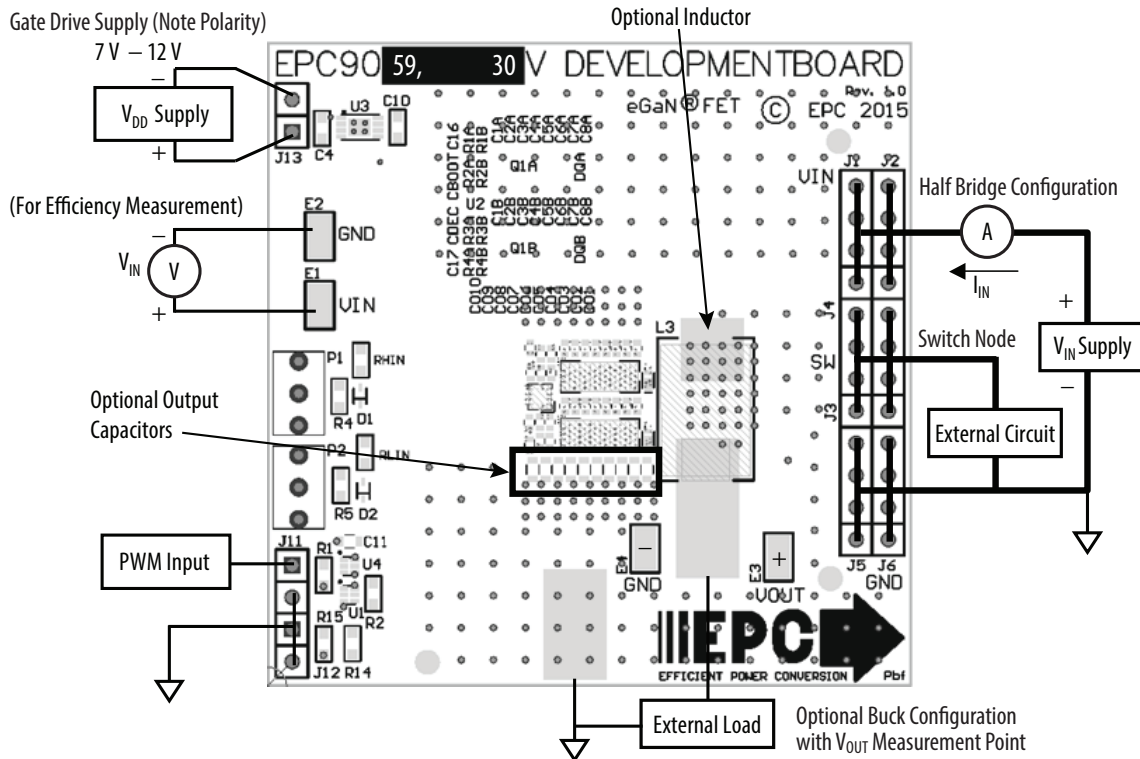

Figure 2: Proper Connection and Measurement Setup
Development board EPC9059 is easy to set up to evaluate the performance of two EPC2100 eGaN monolithic half bridge ICs operated in parallel. Refer to Figure 2 for proper connect and measurement setup and follow the procedure below:
2. With power off, connect the switch node of the half bridge OUT (J3, J4) to your circuit as required (half bridge configuration). The EPC9059 features an optional buck converter configuration, as shown in figure 2, with unpopulated footprints for an output inductor and output capacitors.